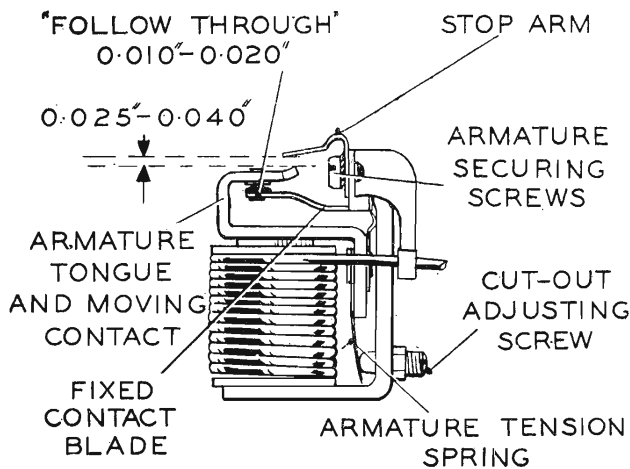

Fig. M.17. Cut-out mechanical settings.
- (1) Slacken the adjusting screw locking nut and unscrew the adjusting screw until it is well clear of the armature tension spring. Slacken the two armature assembly securing screws. (Fig. M.17).
- (2) Press the armature firmly down against the copper sprayed core face and re-tighten the two armature assembly securing screws.
- (3) Using a pair of round-nosed pliers, adjust the gap between the armature stop-arm and armature tongue by bending the stop-arm. The gap must be .025 to .040 in. (.635 to 1·016 mm.) when the armature is pressed squarely down on the core face.
- (4) Similarly the insulated contact blade must be bent so that when the armature is pressed squarely down against the core face there is a 'follow through' or contact deflection of .010 to .020 in. (.254 to .508 mm.). Reset the cut-out adjusting screw as described under 'Cut-out Electrical Setting'.